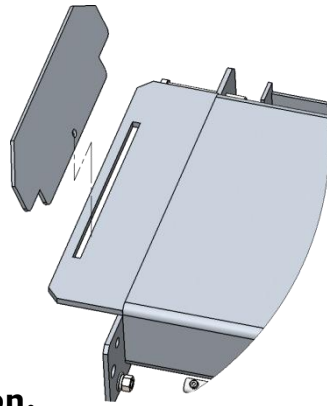

Fig.30
O. Install front wheel platform baffles (See Fig. 30)